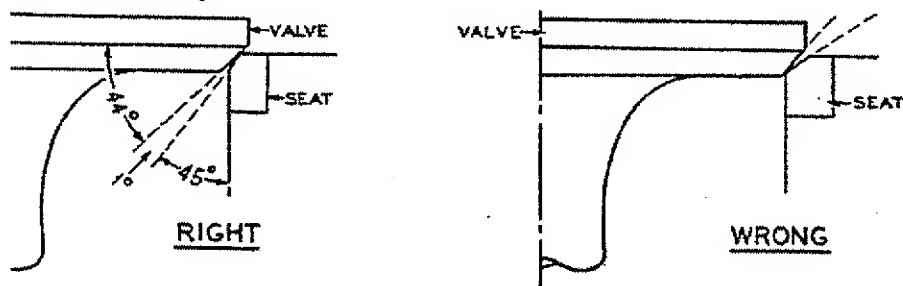

Fig. 22 Valve Seating
**VALVES.** - The exhaust valves and seats are of Stellite material, which is extremely hard and heat resistant. "Lap" grinding such valves is seldom successful. Dress the seats (both intake and exhaust) to an accurate 45 degree angle. Dress the valve faces to a 44 degree angle. This will provide a very narrow band of contact between valve and seat, Fig. 22. This results in better valve seating and lessens chance of deposit built-up on valve seats and faces. Be sure to clean away all traces of abrasive, then oil the valves and guides lightly before reassembly.